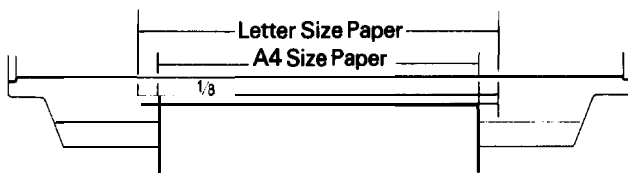

Fig. 44 Setting of Cut Paper Sheet
2. If the paper is set on the line marked 1/4 as shown in Fig. 44, then the printing starts from a position 28.6 mm below the top edge of the paper. If the paper is set on the line marked 1/8, then the printing starts from a position 30.2 mm below the top edge of the paper.